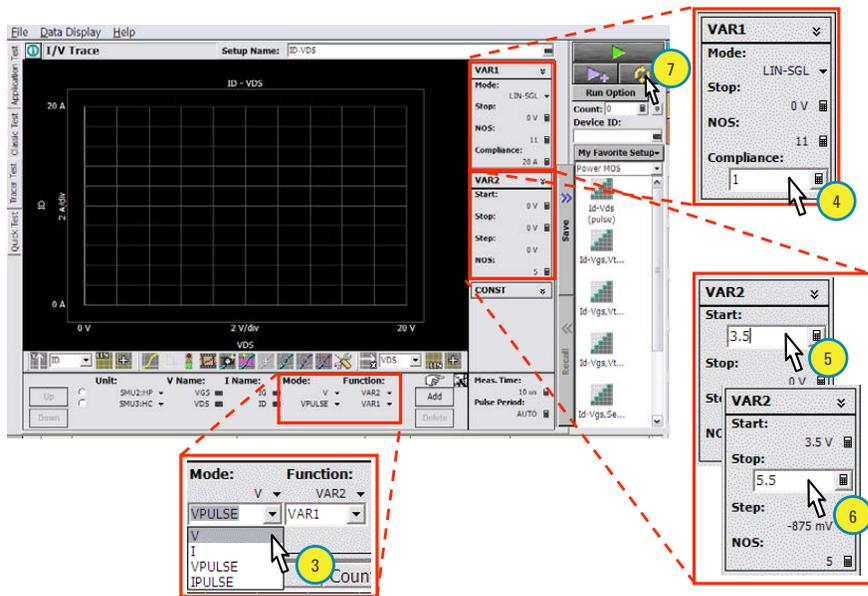

Figure 9. Set parameters for Id-Vds measurement and start measurement.
3. Change the output mode of the HCSMU drain bias from "VPULSE" to "V" (Label 3 of Figure 9).
4. Set the current compliance of the drain bias source, VAR1, to 1 A (Label 4 of Figure 9). Note that after doing this the vertical display scale automatically changes to the same value as the new compliance value.
5. Enter a start voltage for the secondary gate voltage sweep, VAR2, of 3.5 V (Label 5 of Figure 9).
6. Enter a VAR2 stop voltage of 5.5 V (Label 6 of Figure 9).
7. Click the "Repeat" button to start the sweep (Label 7 of Figure 9). Initially the start voltage and stop voltage VAR1 values are both "0V," so only a single point measurement with  $V_d = 0$  V will keep repeating.